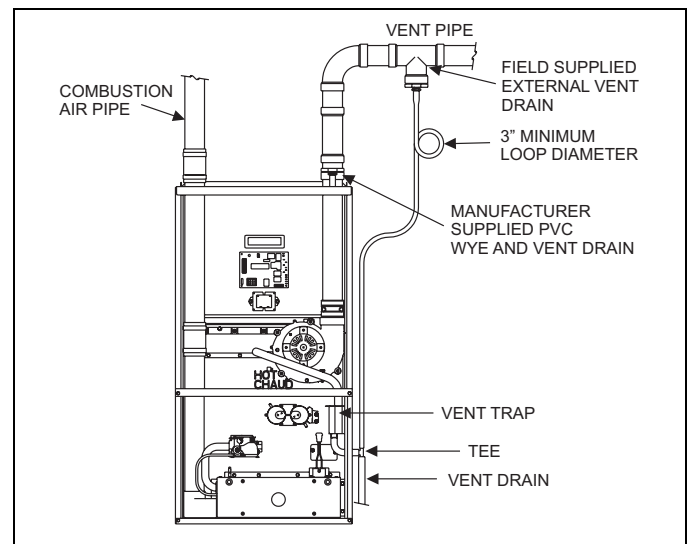

FIGURE 19: External Horizontal Vent Drain
7. A vent drain is required when vent passes through any unconditioned space such as an attic or crawl space in order to prevent the accumulation of excess condensate in the inducer motor during operational cycles, refer to Figure 19, 20 and 23.
When installing the furnace with a horizontal vent configuration that will predominately be in a low ambient condition it is recommended that an external vent drain be installed in the horizontal portion of the venting system. The external vent drain is also recommended for extremely long horizontal vent applications. This is recommended to prevent accumulation of excess condensate in the inducer motor during operational cycles. Refer to Figure 19 for recommended external vent drain configuration and connections.
6. A vent drain is required when vent passes through any unconditioned space such as an attic or crawlspace in order to prevent the accumulation of excess condensate in the inducer motor during operational cycles. See Figure 19 & 23.